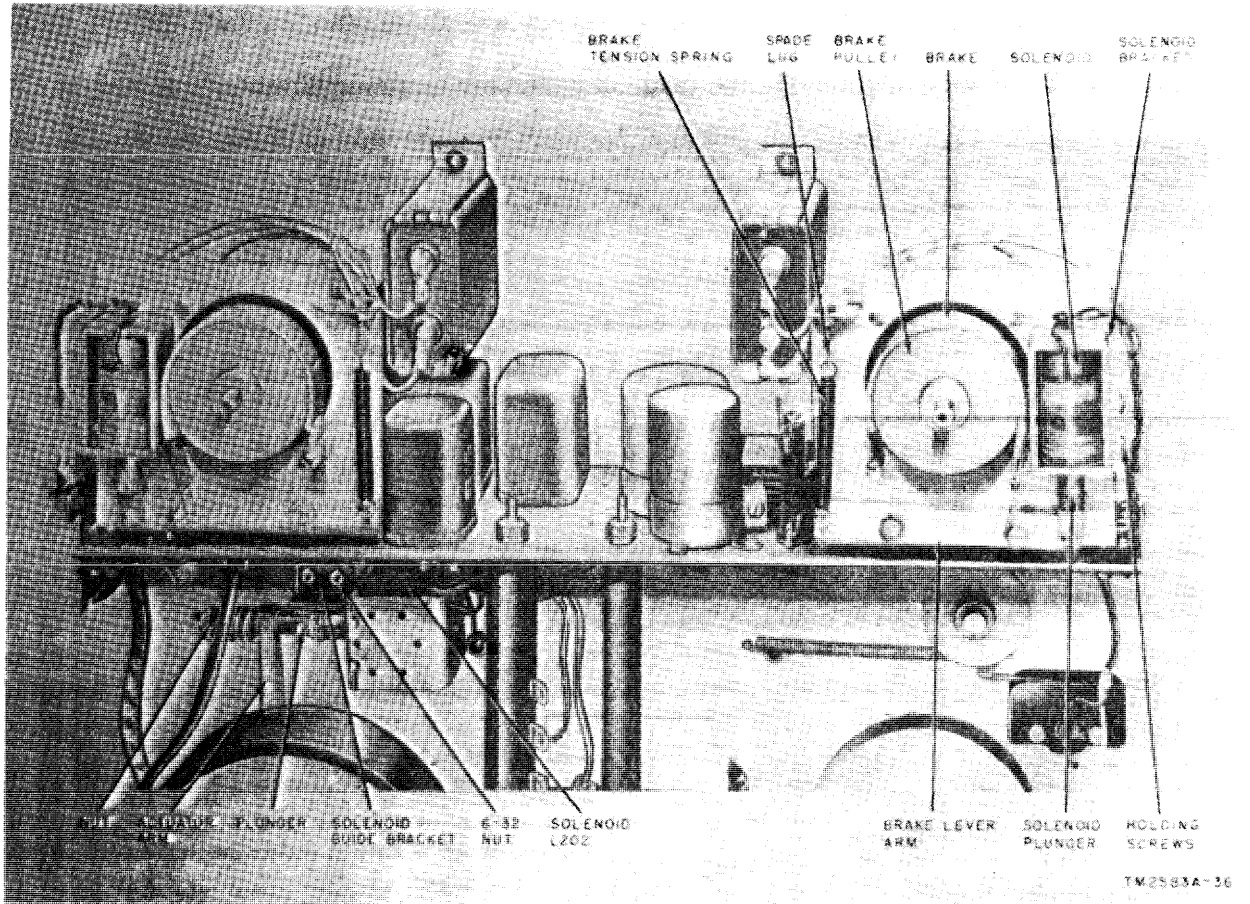

Figure 39. Recorder-reproducer, adjustment points.
76. Solenoid Throw Adjustment (fig. 39)
77. Brake Belt Tension Adjustments (fig. 39)
b. Loosen the two No. 6-32 nuts on the solenoid guide bracket (fig. 39).
c. Loosen, but do not remove, the two set screws on the lower end of the actuator arm (fig. 39).